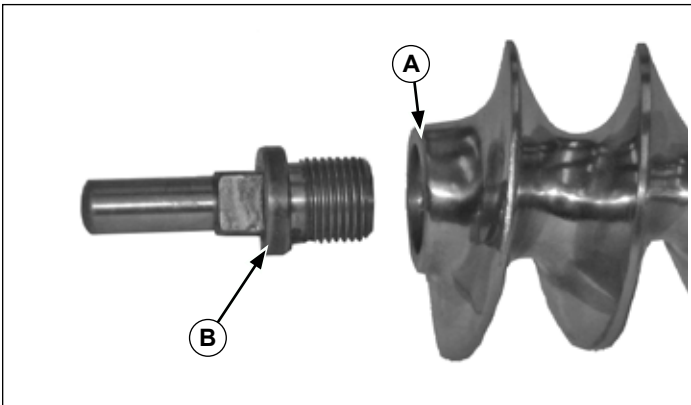

Figure 7. Blade Shaft and Worm Gear
7. If desired remove the blade shaft assembly (B) from the worm gear (A). See Figure 7
1. If necessary assemble the blade shaft (B) into the worm gear (A). See Figure 7.